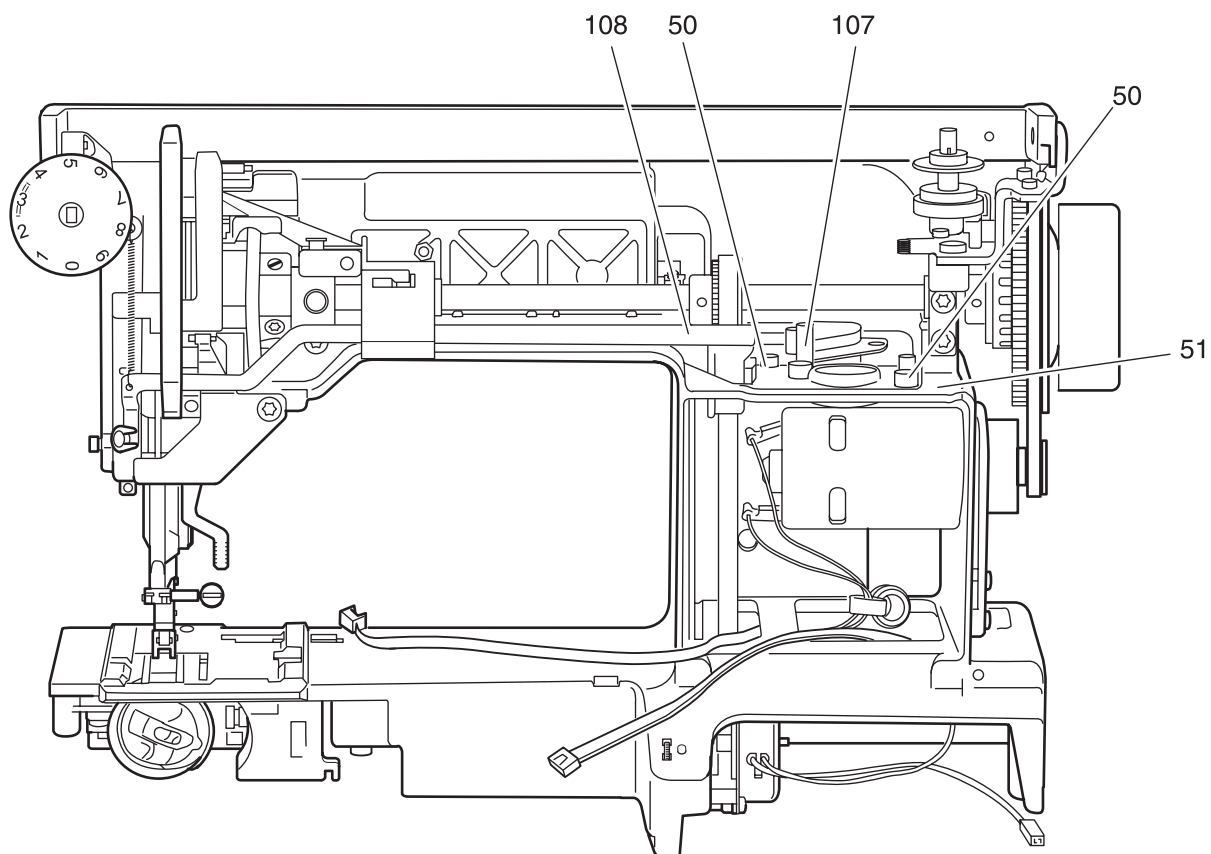

Fig. 87
- Remove circlip 107 on zigzag stepping motor 51 (fig. 87).